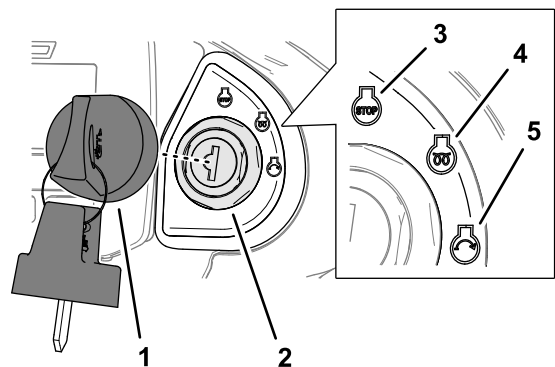

Figure 26
4. Turn the key to shutoff (stop) position (Figure 26).